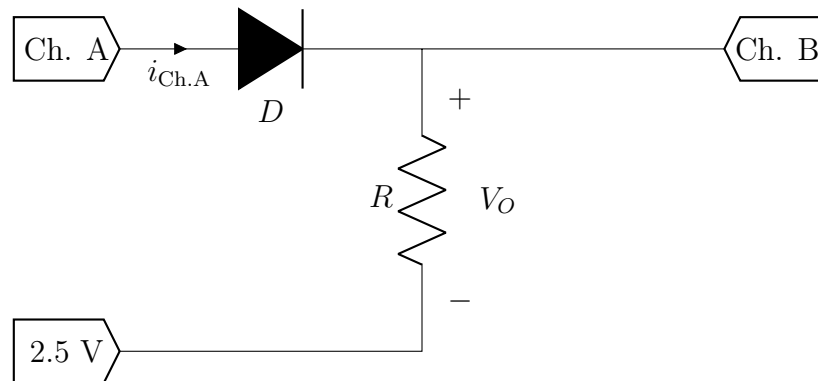

Figure 4: PN-Junction Diode Half-Wave Rectifier
1. Build a half-wave diode rectifier circuit using a Si 1N4148 diode, as shown in Figure 4. Use a 5 V_{pp} sinusoidal input waveform from the M1K ADALM1000 by setting channel A to "Source Voltage, Measure Current" and producing a sine wave with parameters of 5V amplitude and 100Hz frequency. If you are using ALICE, under AWG CH A, set Mode to SVM1, Shape to Sine, Max Ch A to 5.0, and Freq Ch A to 100.0, and above the Oscilloscope screen, set Time mS/Div to 10.0, and to the right of the Oscilloscope screen, check the boxes next to "CA-V" and "CB-V". To create a waveform from -2.5V to 2.5V, a fixed 2.5V supply from the M1K will be used as demonstrated in Figure 4. Your Ch A waveform will still appear as 0V to 5V on pixelpulse 2 or ALICE, but the waveform experienced by the diode is actually -2.5V to 2.5V. Use a resistor value of 1 k Ω at the output. Connect Channel A GND to Channel B GND.